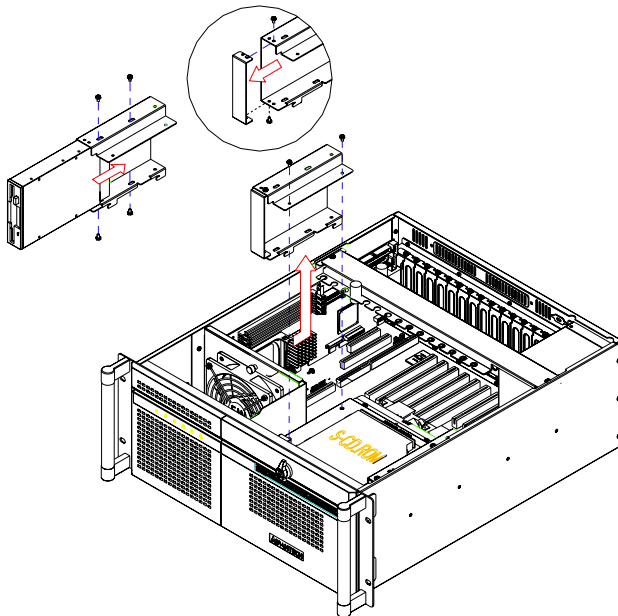

Figure 2.7: Installing 3.5" HDD or FDD
2. Insert the disk drive into the proper location in the bracket and secure them with the screws provided. (see *Figure 2.7*)